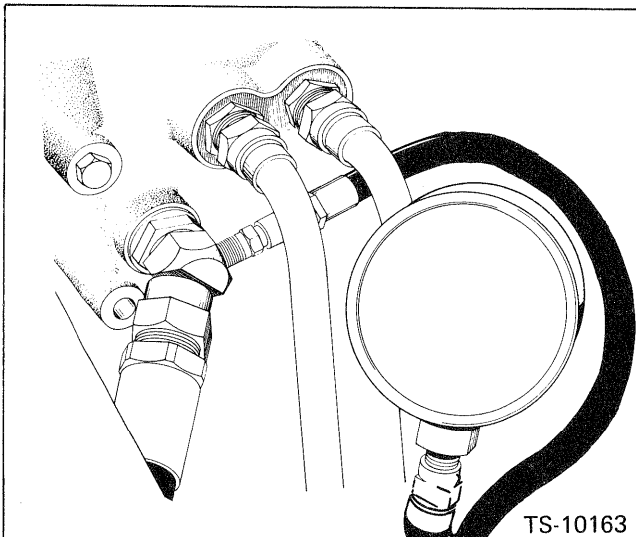

Fig. 10-5 Main Relief Valve Pressure Check
3. Attach a hydraulic gauge of at least 3,000 p.s.i. capacity to the hose fitting on the main control valve. Fig. 10-5